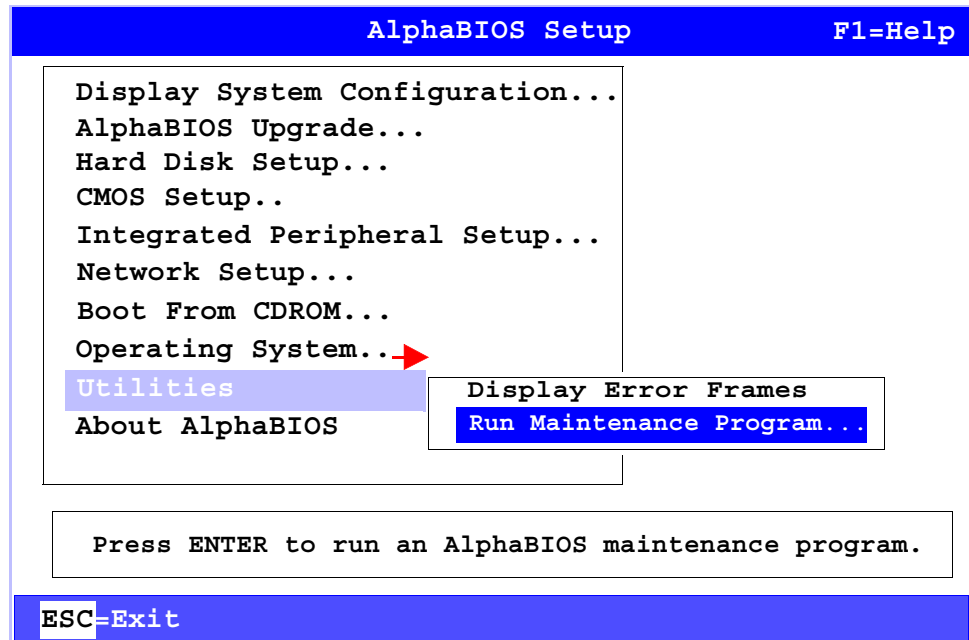

Figure 4-11 AlphaBIOS Setup with Utilities Selection to Run Maintenance
3. Select **Run Maintenance Program** from the submenu as shown in Figure 4-11.